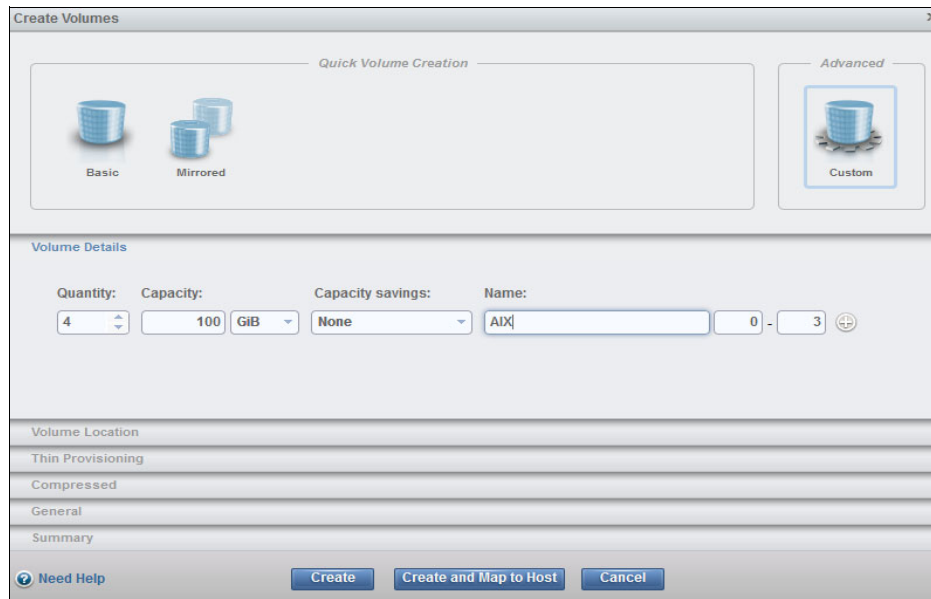

Figure 5-59 Create 4 volumes
- The next step is to create volumes for the hosts. Click **Create Volumes** in the Volumes menu and click **Custom**. Provide a name for the volumes, and enter the capacity and number of volumes. Create four volumes for the AIX host (Figure 5-59).